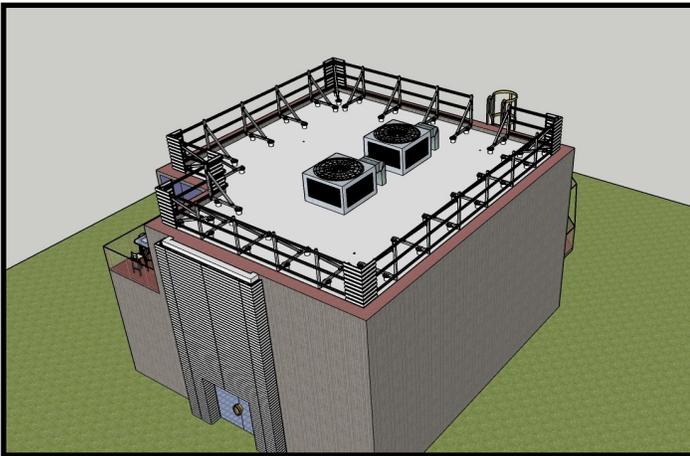

Fig 16
15. Complete the installation of all the Corner Screens. (see fig 16)